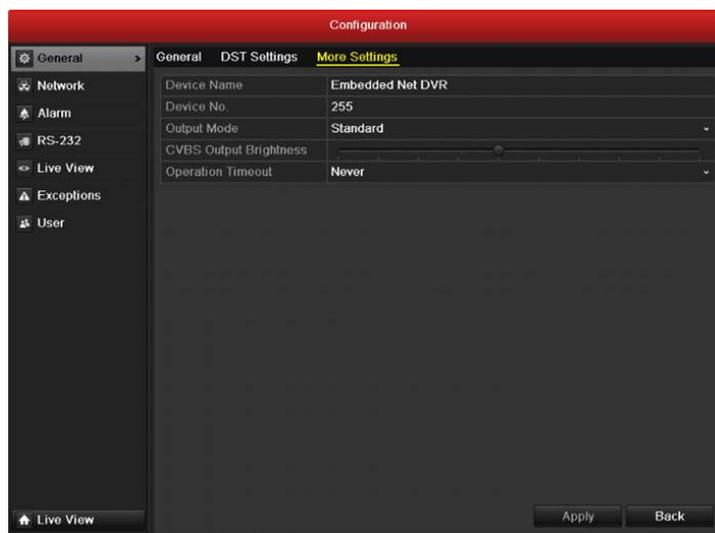

Figure 13.3 More Settings Interface
2. Click the **More Settings** tab to enter the More Settings interface, as shown in Figure 13.3.